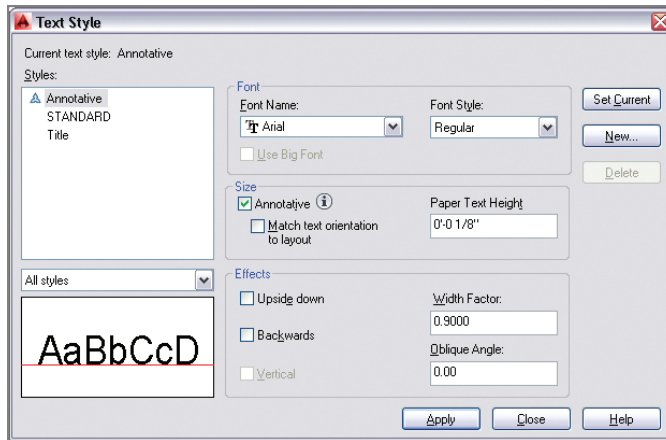

FIGURE 13.1 Creating an annotative text style
3. Select Arial as the font name, select Annotative in the Size area, type **1/8”** (or **0.4** cm) for Paper Text Height, and type **0.9** for the Width Factor (see Figure 13.1). Click Apply, and then click Close.